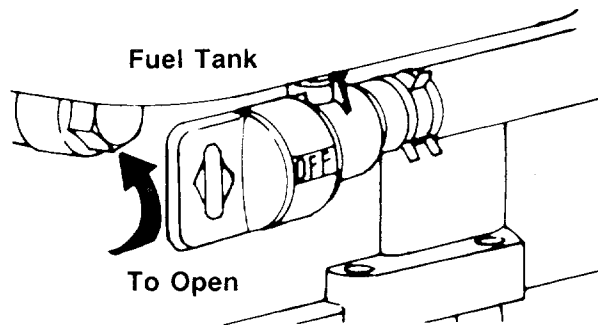

FIGURE 17.
4. **Deluxe Briggs and Stratton engines:** Open fuel shut-off valve. See figure 17.